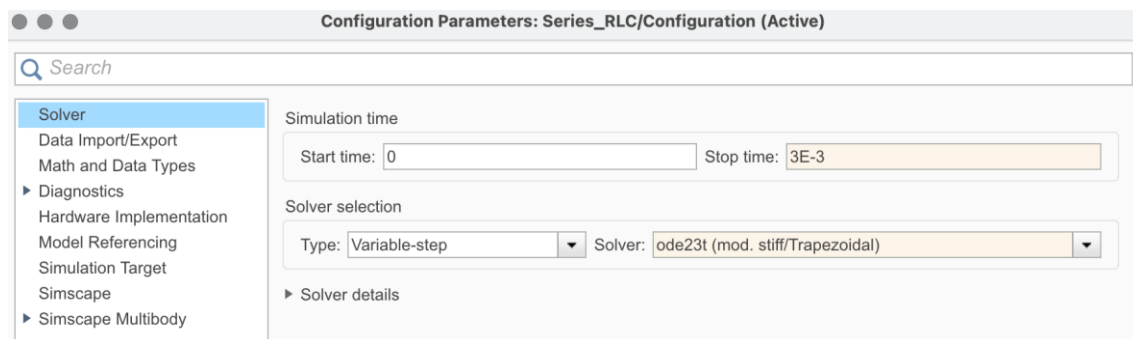

Figure 6: Simulation Configuration Parameters
- Inductor (L) “Inductance” = 100 mH
- Capacitor (C) “Capacitance” = 100 nF
- It will now be important to specify the stop time for the simulation. We need the simulation to last only a few periods so that we can see the plot correctly going from its transient state to steady state. If the simulation time is too long, the plot that is generated will not look correct. Go into the “Configuration Parameters” and change the stop time to 3E-3 (seconds) and the change the solver to “ode23t (mod.stiff/Trapezoidal)” Figure 6 displays these changes.